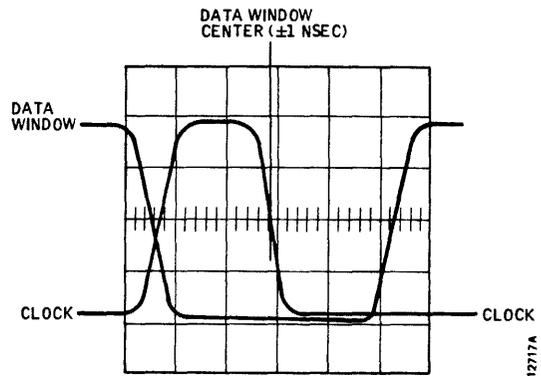

Figure 3-26. Clock Pulse Adjustment Waveform (T80)
14. Adjust potentiometer R31 on the Data Separator card to move the trailing edge of the Clock pulse on Channel 2 to the center (± 1 nanosecond) of the Data Window on Channel 1. See Figure 3-26.